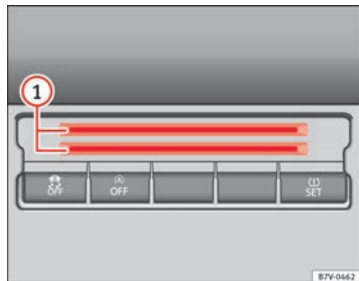

Fig. 108 Centre console, lower section: card compartment
To the bottom of the centre console there is a compartment ⇒ Fig. 108 ① for coins, cards, car park tickets and similar items.